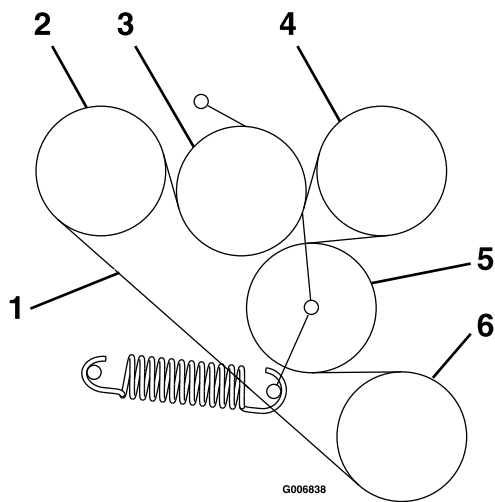

Figure 62
6. Route the new belt onto the sheaves as shown in the decal located on the back of the left drive shield (Figure 62).